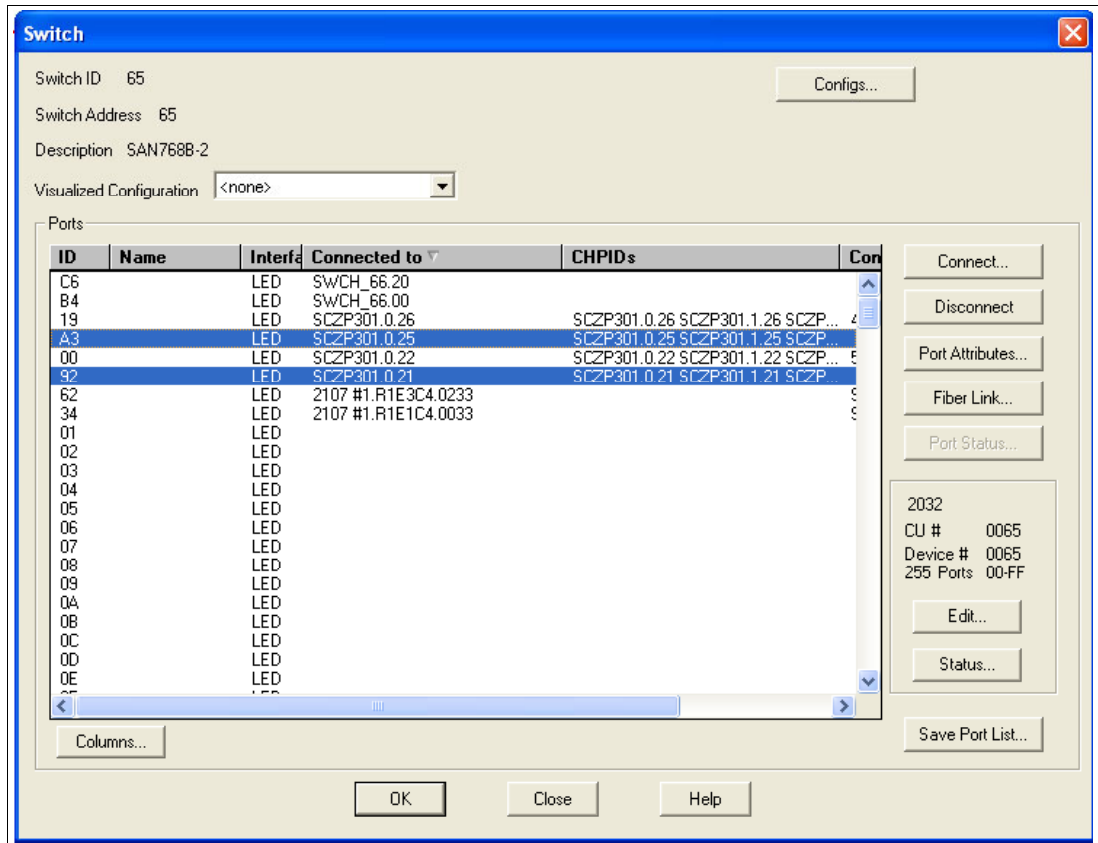

Figure 7-21 HCM Ports connected to Channel Paths
19. Perform the same action for Port A3 and CHPID 25. Refer to Figure 7-21 on page 214.